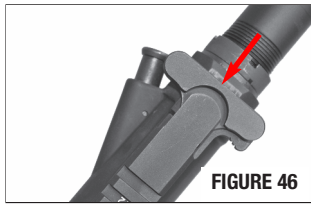

FIGURE 46
- Return charging handle fully forward until it locks (FIGURE 46).